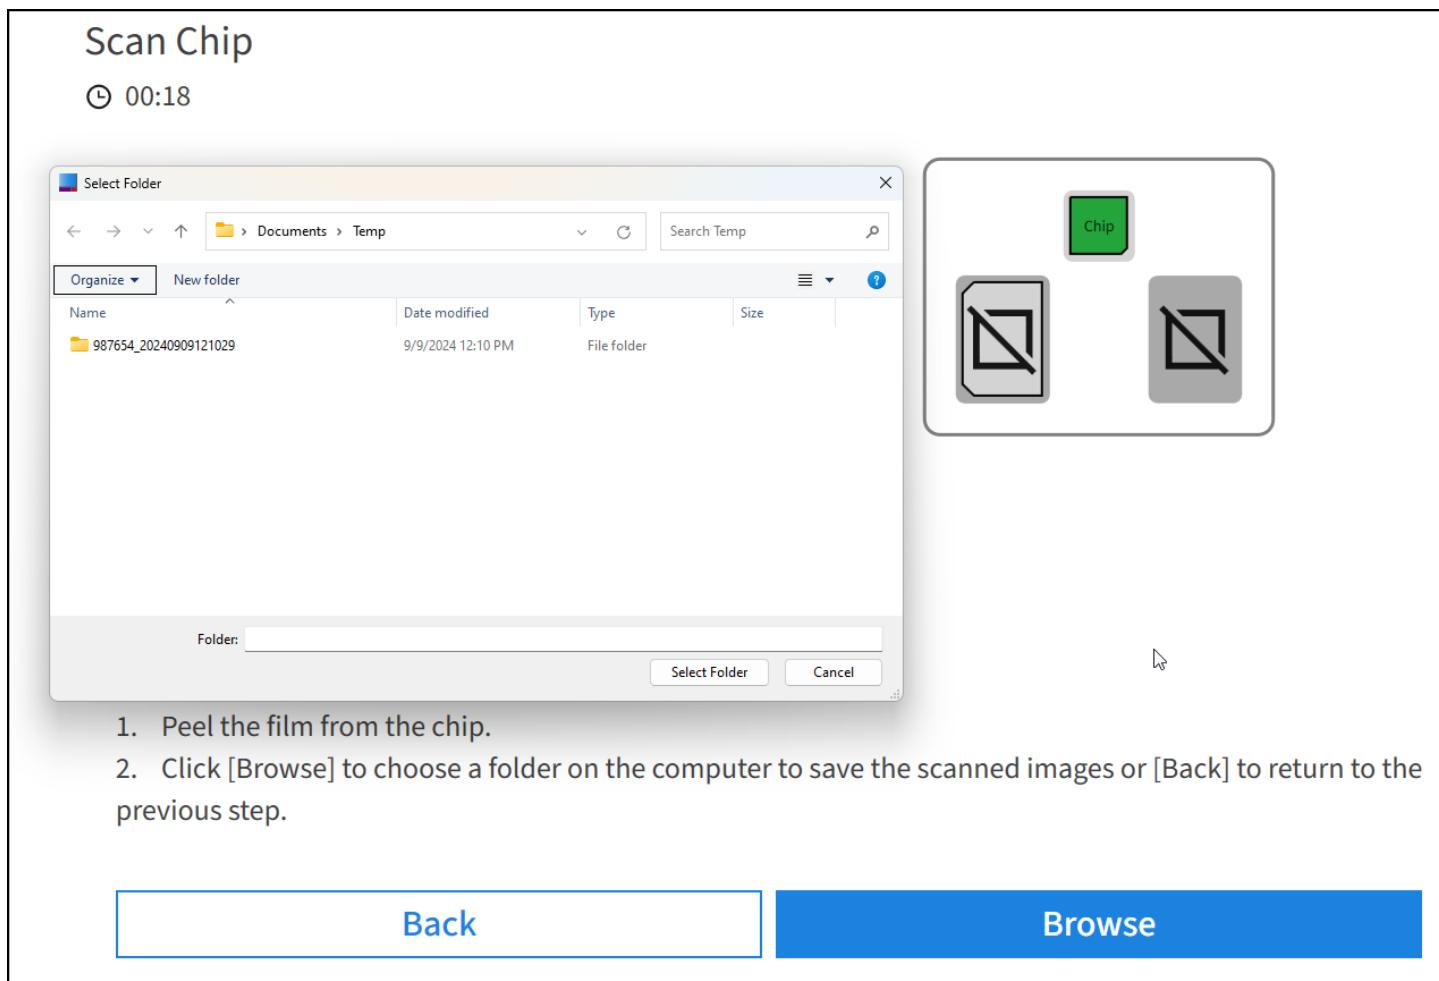

Figure 71. Image save folder browse view.
4. Select the folder to save the image files to (Figure 71).